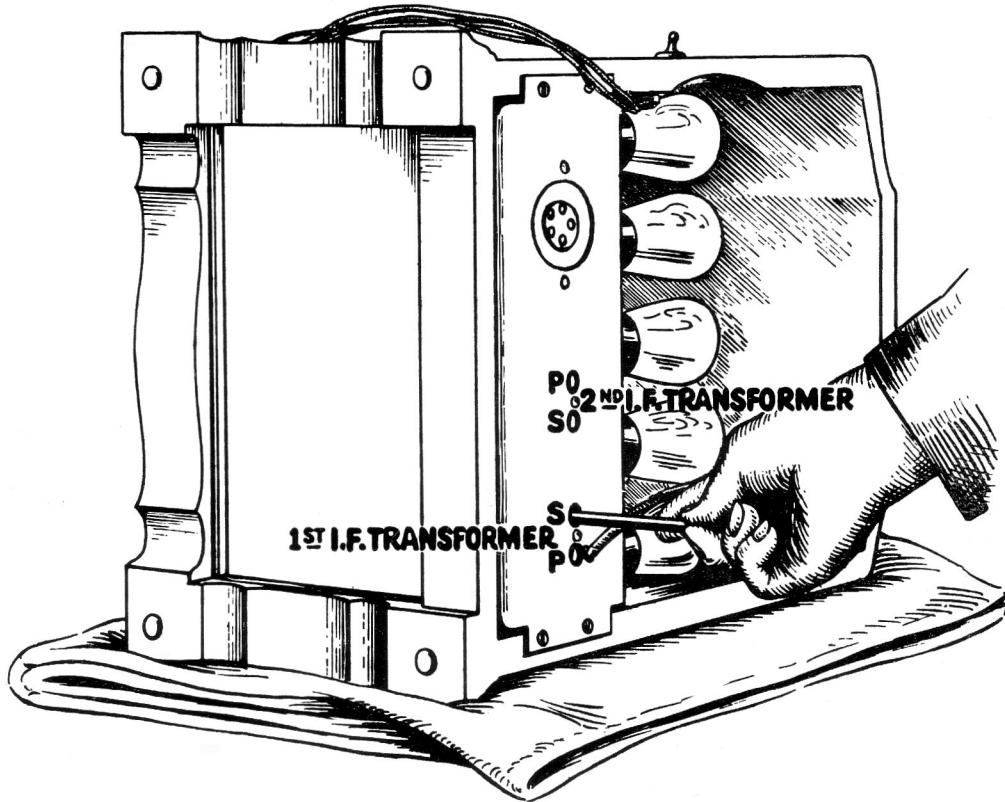

Fig. 7 I.F. Adjustment Screws
The gang condenser is operated by means of a rugged cord in the same manner as a number of recent Westinghouse models. If it becomes necessary to replace this cord follow the arrangement shown in Figure 7. Figure 7, it should be noted, is shown with the station selector at the low frequency end of the scale. If it is desired to improvise a drive cord instead of using a standard replacing part it should be noted that the cord forms a closed loop which when stretched out measures 12½ inches.
- (d) Now adjust the secondary and primary of the second and first I.F. transformers until a maximum reading is obtained in the output meter. Go through these adjustments a second time as a slight readjustment may be necessary. (See Fig. 7).
Figure 7 illustrates the schematic diagram showing the voltage supply system together with the values of the various resistors. It will be noted that the series method of voltage supply is used except in the volume control circuit. This keeps the current drain on the rectifier tube at a minimum value.